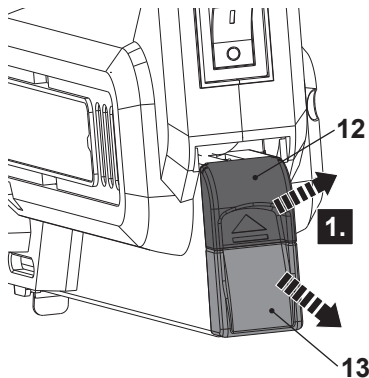

Fig. 2
1. Lift up the magazine release button (12) (Fig. 2, step 1), and the magazine slider (8a) will automatically pop up.